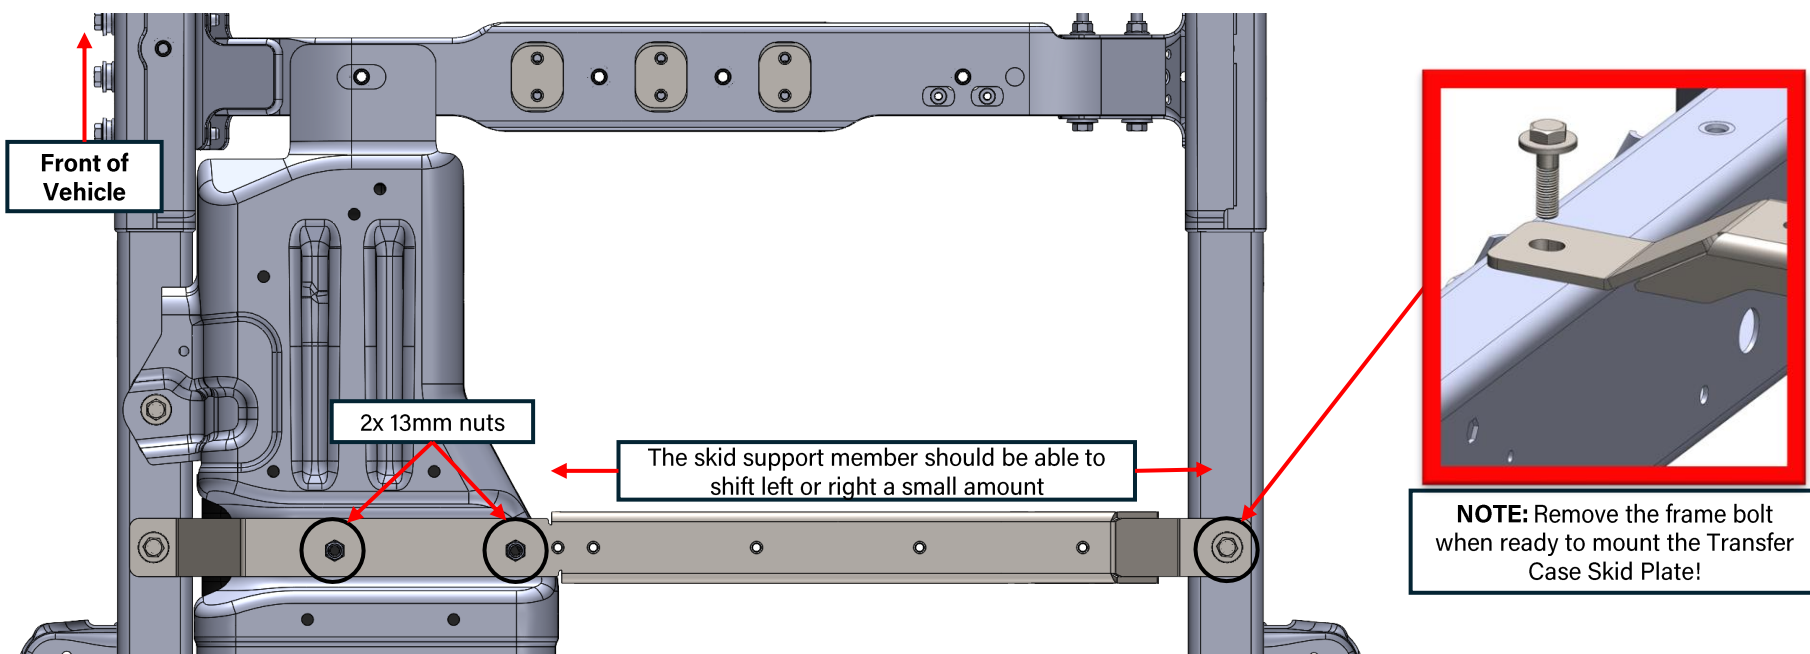

Figure 6: Skid support member loosely attached to frame
5. Loosely thread on the 13mm nuts (that were removed from Step 2) at small slots on the skid support member. Tighten the nuts just enough so that you can still slide the skid support member left or right. This is required to get the transfer case skid plate to mount in its proper position and to fine-tune fitment. **Before bringing the new skid plate into position, note that the frame bolt (circled below) needs to be removed to then be fed through the skid plate mount. See Figure 6 below.**
6. Lift the new transfer case skid plate into position. Loosely thread the 18mm frame bolt from Figure 6, followed by the x3 provided 3/8"-16 countersunk bolts at the cross member, as well as the x4 3/8"-16 countersunk bolts at the skid support member.